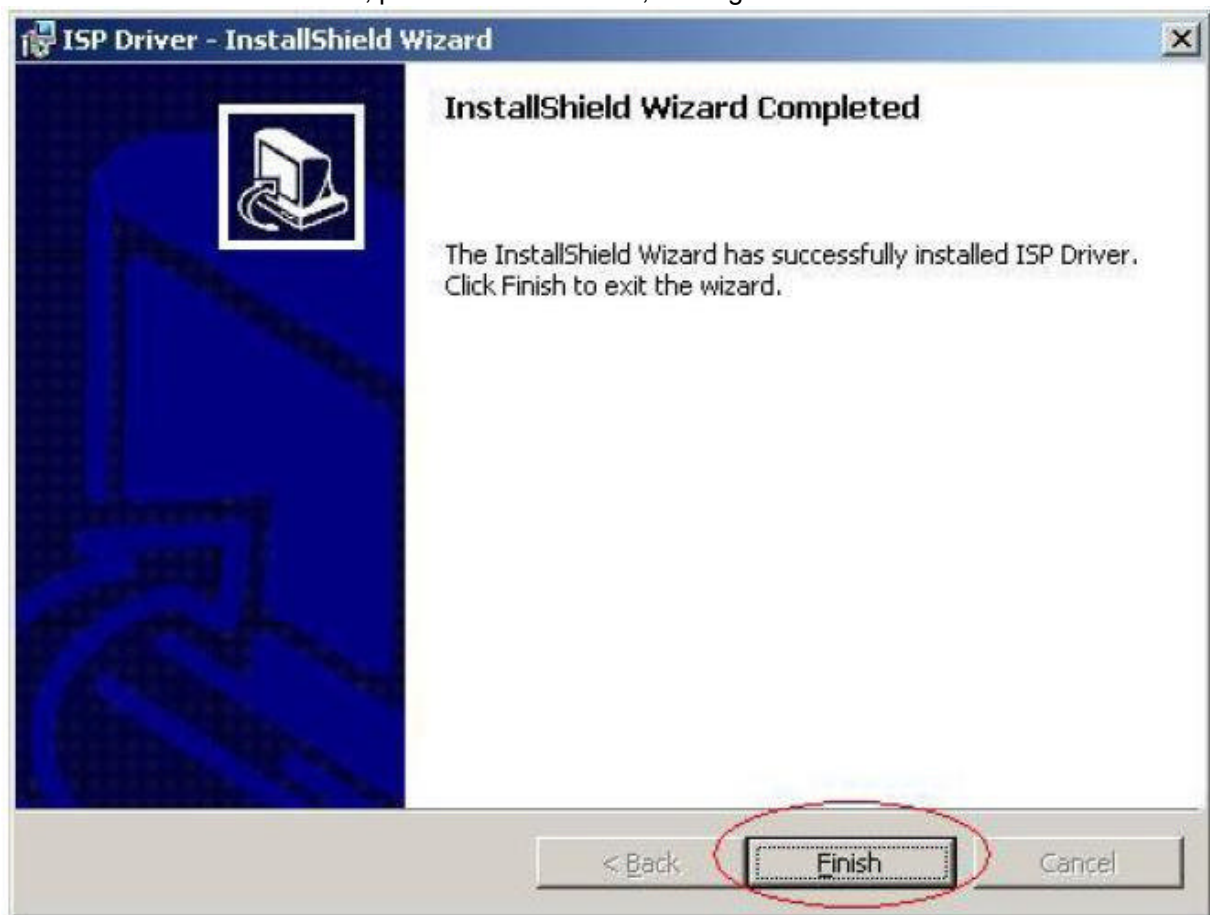

Fig. 1.4
1.6 Installation has finished , press “ Finish “ button , see Fig 1.4